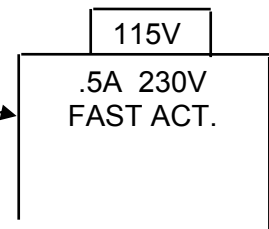

Figure 3
- 1. Unplug the power/mains cord from the unit (Figure 3).**